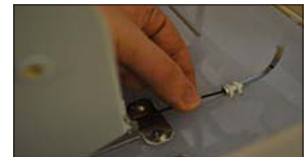

Fig. 37
8. Push filament between the front of cartridge and the eyelet, through the feed tube and up to the printjet. (Fig. 37)